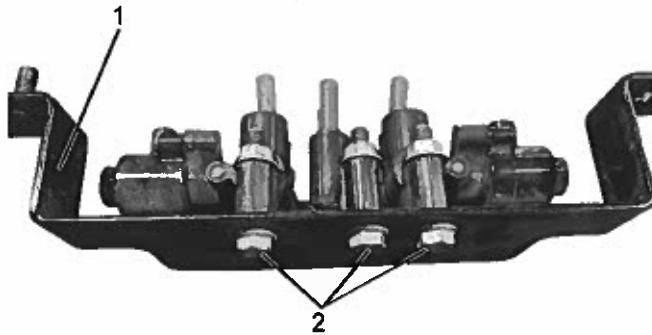

Figure 5. LT PVM Mounting Bracket
2. Fastener assembly (3)
16. Remove three fastener assemblies (Figure 5, Item 2) from mounting bracket (Figure 5, Item 1). Save fasteners for reuse.
17. Remove module from mounting bracket (Figure 5, Item 1).
18. Position new module to mounting bracket (Figure 5, Item 1).
19. Install three fastener assemblies (Figure 5, Item 2) to secure module to mounting bracket (Figure 5, Item 1).